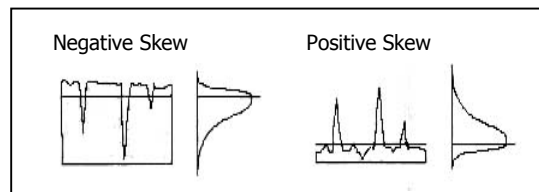

Figure 2
- 2) **Rsk – Skewness:** Negative Skew of  $-0.25$  to  $-3.0$ . (see Figure 2 below)